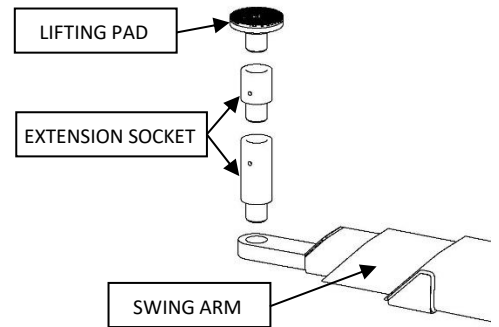

FIGURE 17 : EXTENSION SOCKET INSERTING
- 9.2 ADJUST THE HEIGHT OF THE LIFTING PADS BY ADDING OR REMOVING EXTENSION SOCKETS TO PUT THE VEHICLE UP AT LEVEL AND TO HAVE THE SHORTEST DISTANCE BETWEEN LIFTING PADS AND THE LIFTING POINTS RECOMMENDED BY THE VEHICLE’S MANUFACTURER. SEE **FIGURE 17**.
4. INSTALL THE LIFTING PADS AND EXTENSION SOCKETS IN THE HOLES AT THE END OF THE SWING ARMS. SEE **FIGURE 17**.
- 8.2 ADJUST THE LIFTING PADS HEIGHT BY ADDING OR REMOVING EXTENSION SOCKETS TO PUT THE VEHICLE UP TO THE LEVEL AND TO HAVE THE SHORTEST DISTANCE BETWEEN LIFTING PADS AND THE LIFTING POINTS RECOMMENDED BY THE VEHICLE'S MANUFACTURER. SEE **FIGURE 17**.